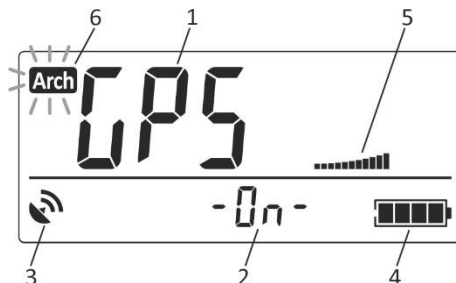

Figure 2.30 – LCD of the dosimeter (Navigation receiver control mode)
2.3.6.9.2.2 The LCD of the dosimeter displays the following information in this mode (Figure 2.30):
- “GPS” symbols (1) – indication of the mode;
- navigation receiver status (2);
- symbol of navigation receiver status (3);
- battery status symbol (4);
- instantaneous value indicator (5);
- sign (6) of critical filling of the dosimeter’s nonvolatile memory, where DE accumulation history is stored (2.3.4 of this OM).